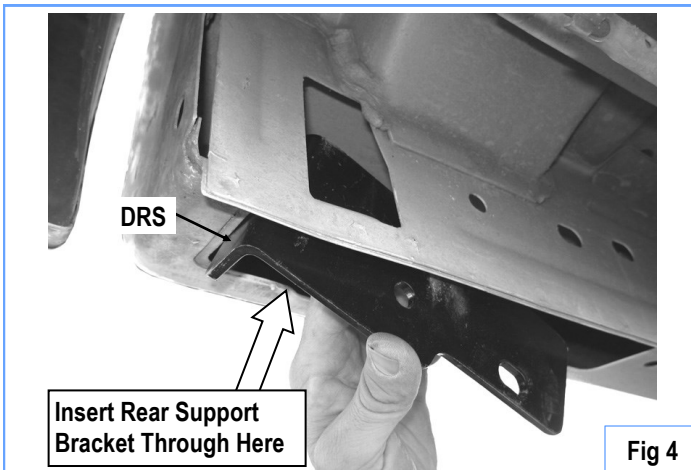

Fig 4
With the 90° bend towards the rear of the vehicle and facing the side of the vehicle, insert the Driver Rear Support Bracket (DRS) through rectangular hole located in the bottom of the body (**Fig 4**). Line up the hole in the 90° bend with factory hole located between the cab and the bed of the vehicle and secure it using the (1) M10X1.5-30mm Hex Bolt, (1) M10 Lock Washer, (1) M10X1.5 Hex Nut, and (2) M10 Flat Washers, (**Fig 5**). Do not fully tighten at this time.